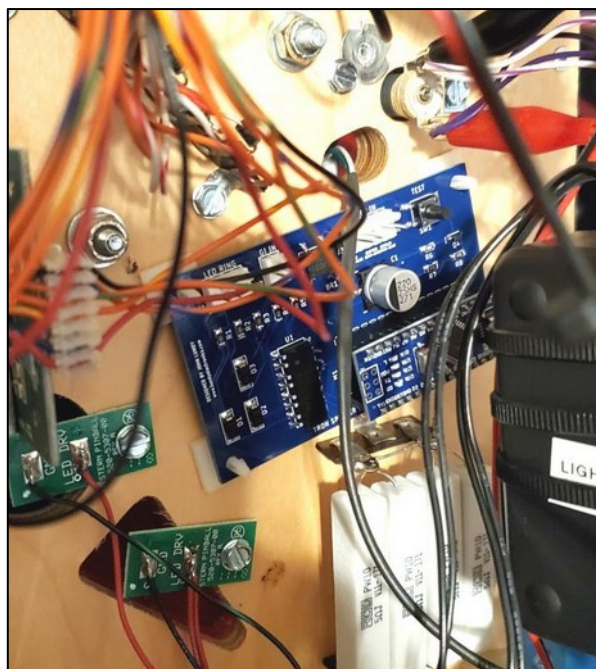

Figure 1
Step 2: With the machine powered off, balls removed, and playfield raised to a full upright position, mount the Lundy Electronics TRON Spinning Disc LED Effect Mod control PCB with the supplied double-sided sticky PCB mounts. See **Figure 1** for correct placement and orientation shown on an LE model. This area is just below the pops and just above the power resistor pack on the right side of the playfield.